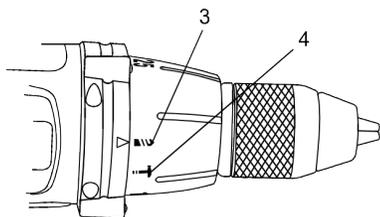

Fig. 2
This position is marked with a drill bit icon (3) on the torque adjustment ring (Fig. 2).